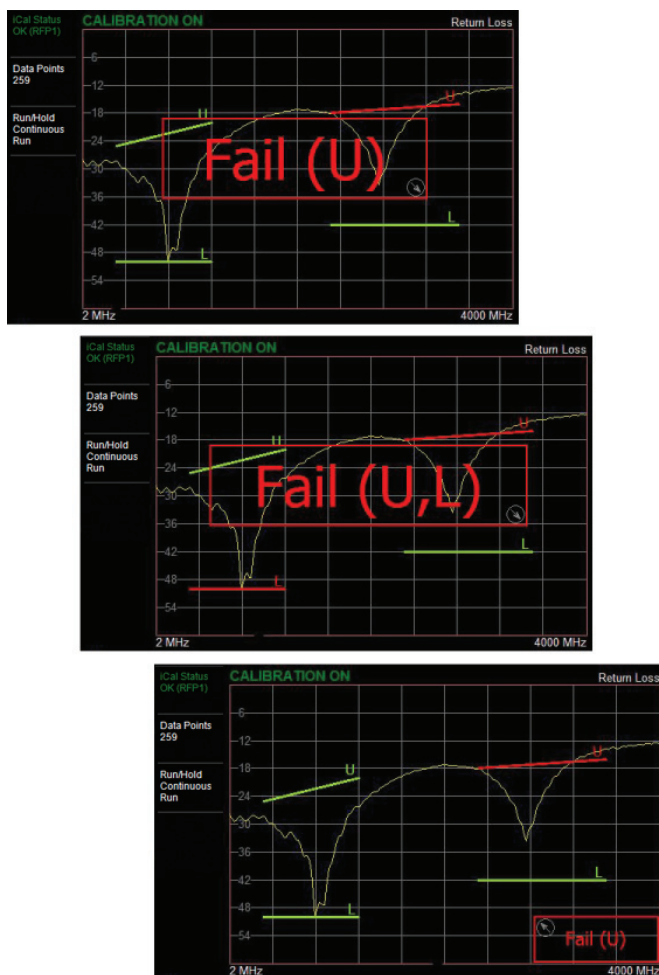

Figure 3-27. Pass/Fail Message Turned On
When set to On, a **Pass** or **Fail** message is displayed. Fail is displayed when the trace crosses or touches a limit line, as illustrated in Figure 3-27. Note that Upper (U) or Lower (L) or both (U, L) are displayed. To change the size and location of the Pass/Fail message, tap the small circled arrow in the lower-right corner of the large format message box. The circled arrow is in the upper-left corner when the message is in small format.